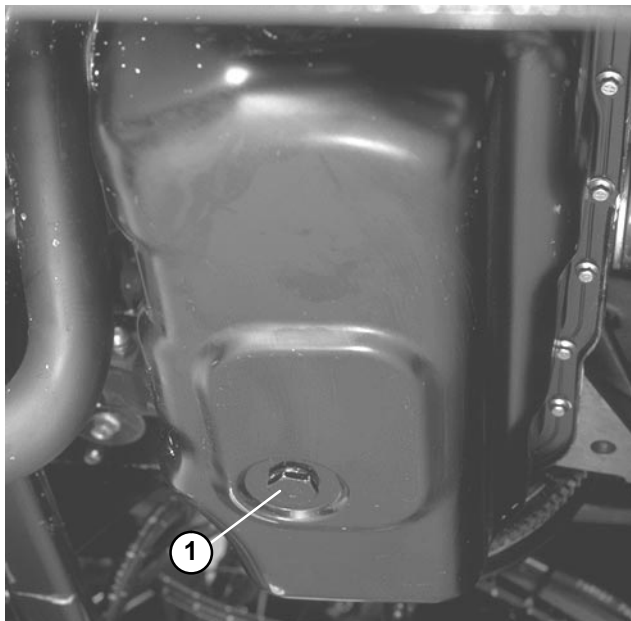

Figure 20
1. Remove drain plug (Fig. 20) and let oil flow into drain pan. When oil stops, install drain plug and new plug seal, Part No. 74-7850.